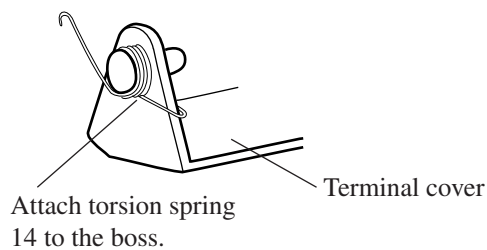

Fig. 5
2. Attach torsion spring 14 on the new terminal cover as illustrated in Fig.5..